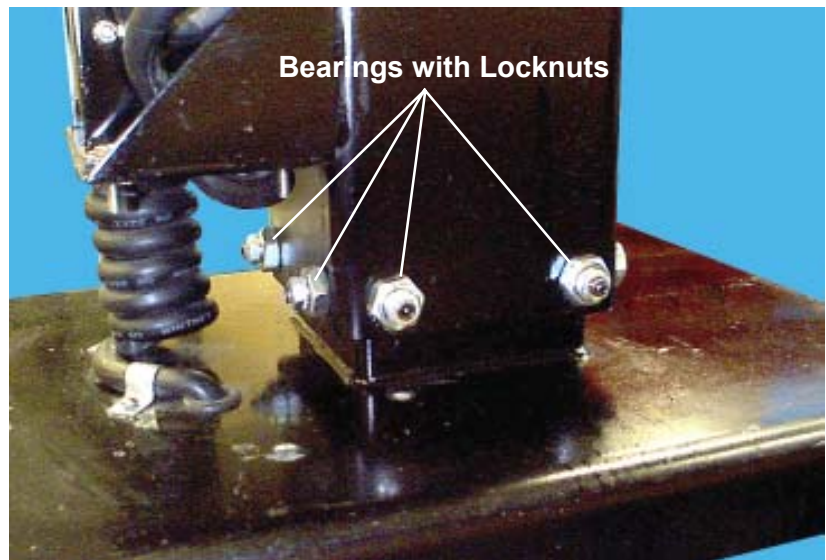

Figure 55. Lower Main Column Bearings
7. Locate the lower main column bearings (Figure 55). There are eight bearings located around the periphery of the column. As with the upper bearings, you will be adjusting *only* the four bearings with locknuts.